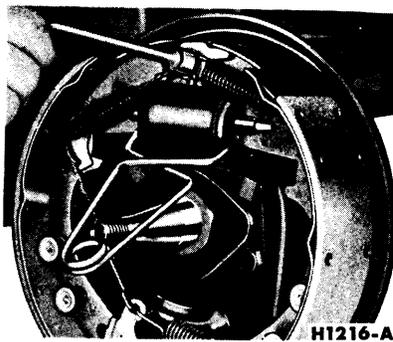

FIG. 7—Retracting Spring Removal
1. With the wheel and drum removed, install a clamp over the ends of the brake cylinder as shown in Fig. 7.
5. Remove the secondary shoe to anchor spring with the tool shown in Fig. 7. With the same tool, remove the primary shoe to anchor spring and unhook the cable anchor.